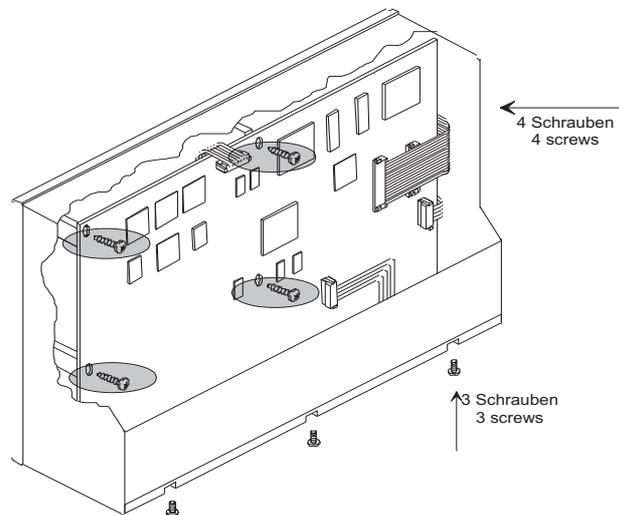

Fig. E 8-10: Fastening main pcb and connector panel
14. Bring the main pcb into the final position. Be sure not to damage the flat cables. Fasten it with four screws. Install and fasten connector panel with three screws resp. when using a table-stand with two screws at the edges (Fig. E 8-10).